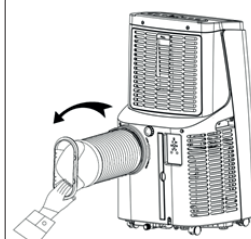

Fig. 3
4. Insert the mounting ring (19) together with the duct (18) into the air outlet (15) and gently turn the ring counter-clockwise (Fig. 3).